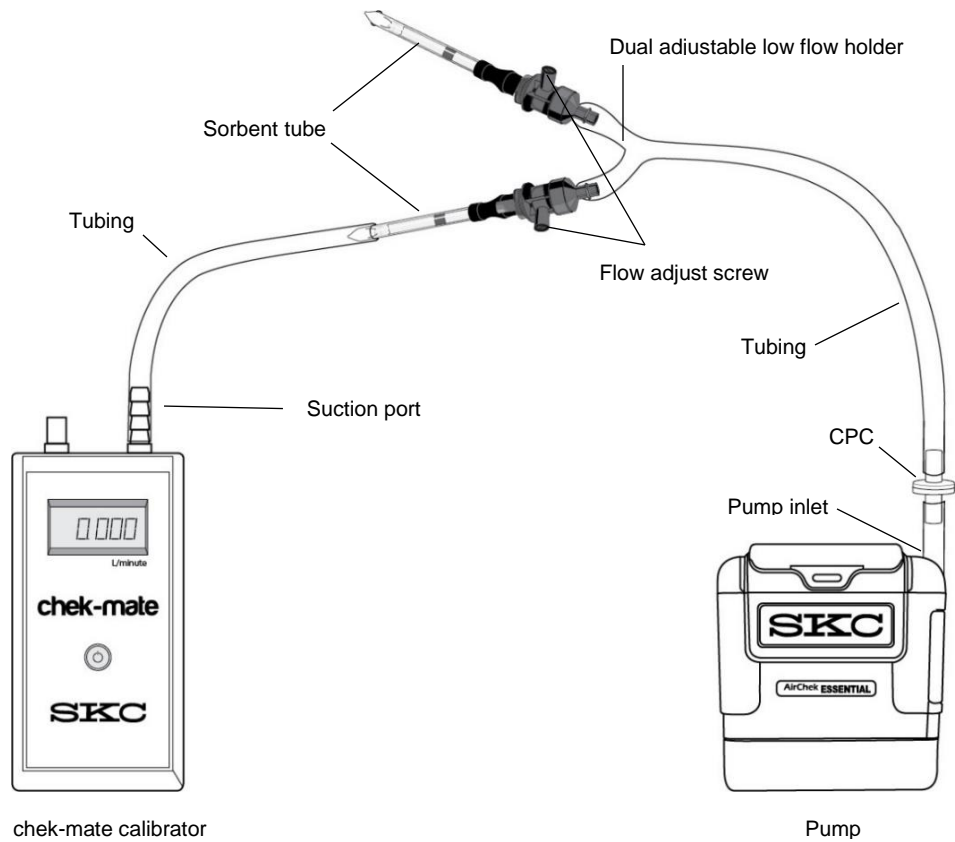

Figure 5. Calibration Train (5 to 500 ml/min) for Multiple Tubes
1. On the tube holder, insert an opened representative tube (arrow on tube pointing toward the pump) into the rubber sleeve on the port. Repeat for the desired number of tube samples. See Figure 5. Place an unopened (inactive) tube in any unused port to “seal” it.